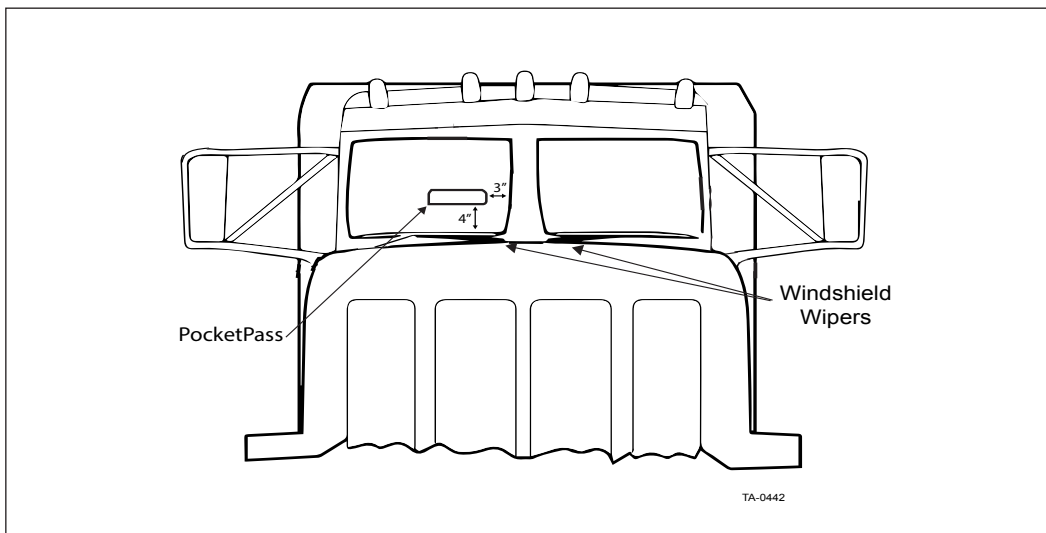

Figure 4 – Placement of PocketPass on two-piece windshield
2. If the vehicle has a two piece windshield, the PocketPass should be mounted on the passenger side, 3 inches away from the center dividing bar, above the windshield wipers and 4 inches above the bottom of the windshield (Figure 4).